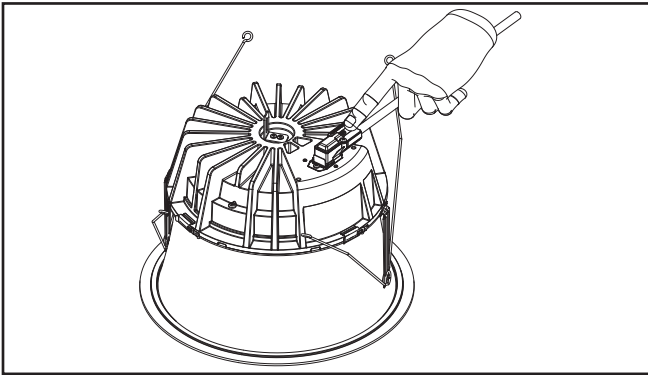

Figure 37
- Properly align the connector as shown in (Figure 37). Plug in the luminaire quick disconnect on the module.